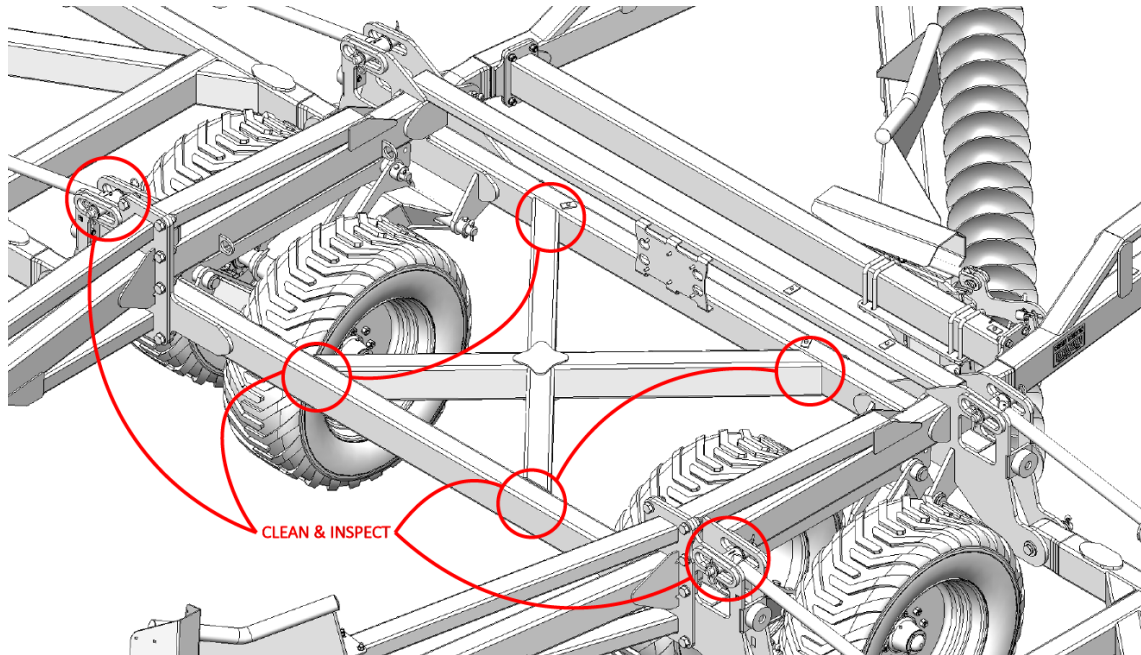

Figure 3 – Clean & Inspect: 46 Center Frame
- 5.1. Prior to installing the 46 Center Frame Brace clean and inspect the Center Frame carefully this must include the underside of the Center Frame. Refer Figure 3.